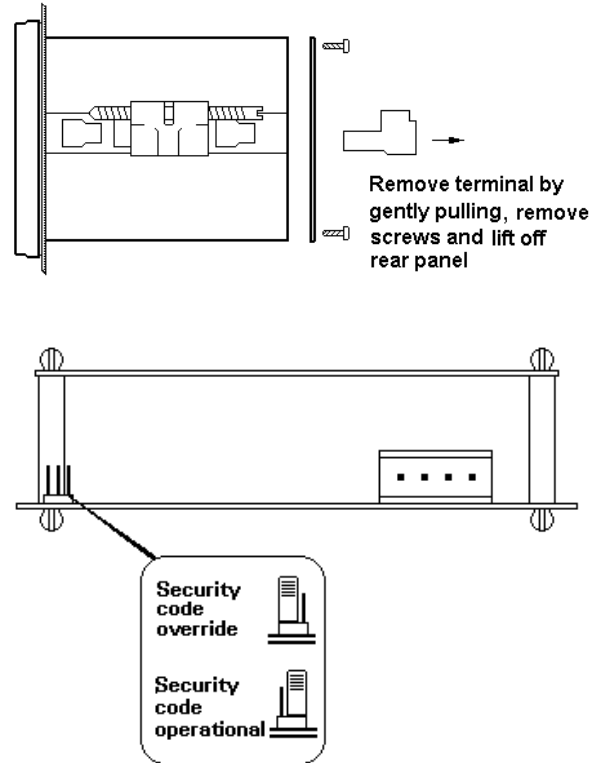

Fig 7 Location of security code override link
To gain access to the security code link, remove the instrument terminal block by gently pulling. Unscrew the four corner screws securing the rear panel and lift off the panel which will reveal the link as shown in Fig 7.
- Remove the rear terminal block and the rear panel as shown in Fig 7.